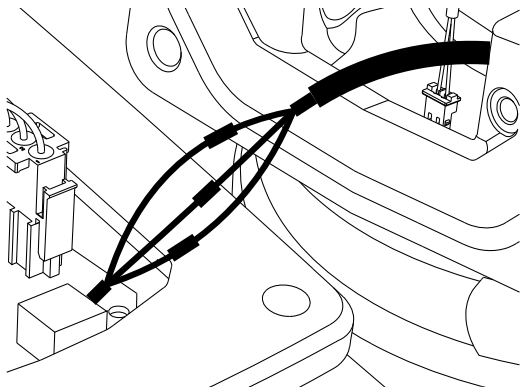

Fig. 19 Leads with connectors
6. Cut away 5, 30 and 55 mm of the three leads from the electronic unit and from the stator housing so that the joints are displaced from each other. See fig. 19. For instance, if 5 mm of the red lead from the electronic unit are cut away, 55 mm of the red lead from the stator housing must be cut away.